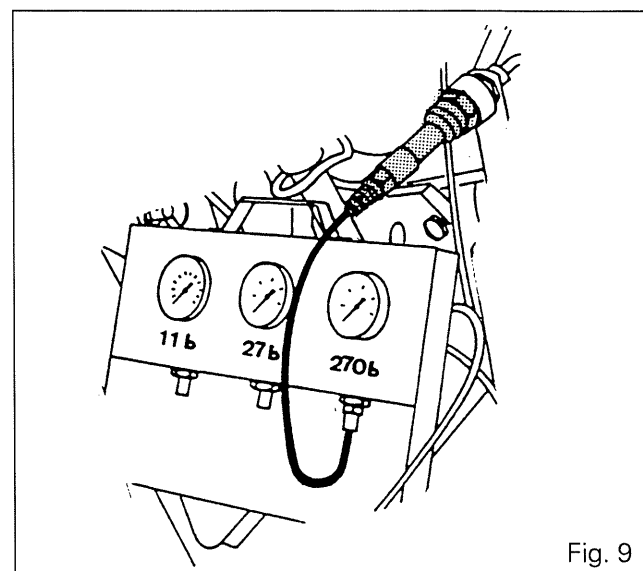

Fig. 9
14. Connect a pressure gauge to the trailer brake connection (Fig. 9).